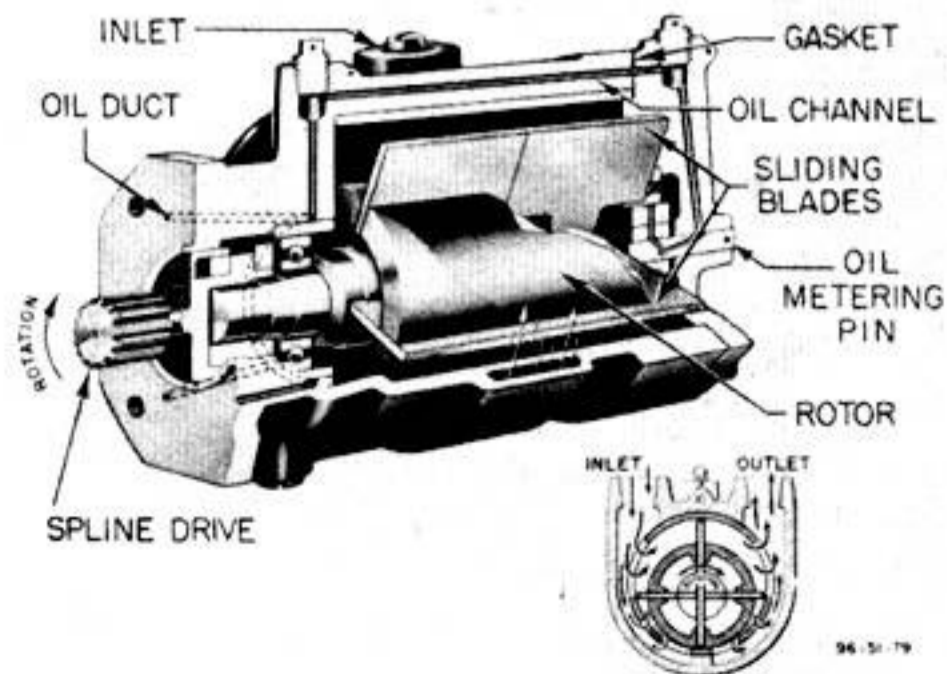

Figure 284—Vacuum Pump
1. DESCRIPTION.—The Type B-12 vacuum pump (figure 284), mounted on the right front end of the engine adjacent to the propeller governor, provides a suction flow of not less than 4.5 in. Hg when operating at 1500 rpm. Lubrication for this high-speed pump is provided by oil ducts in the engine pad, gasket, and pump mounting pad.